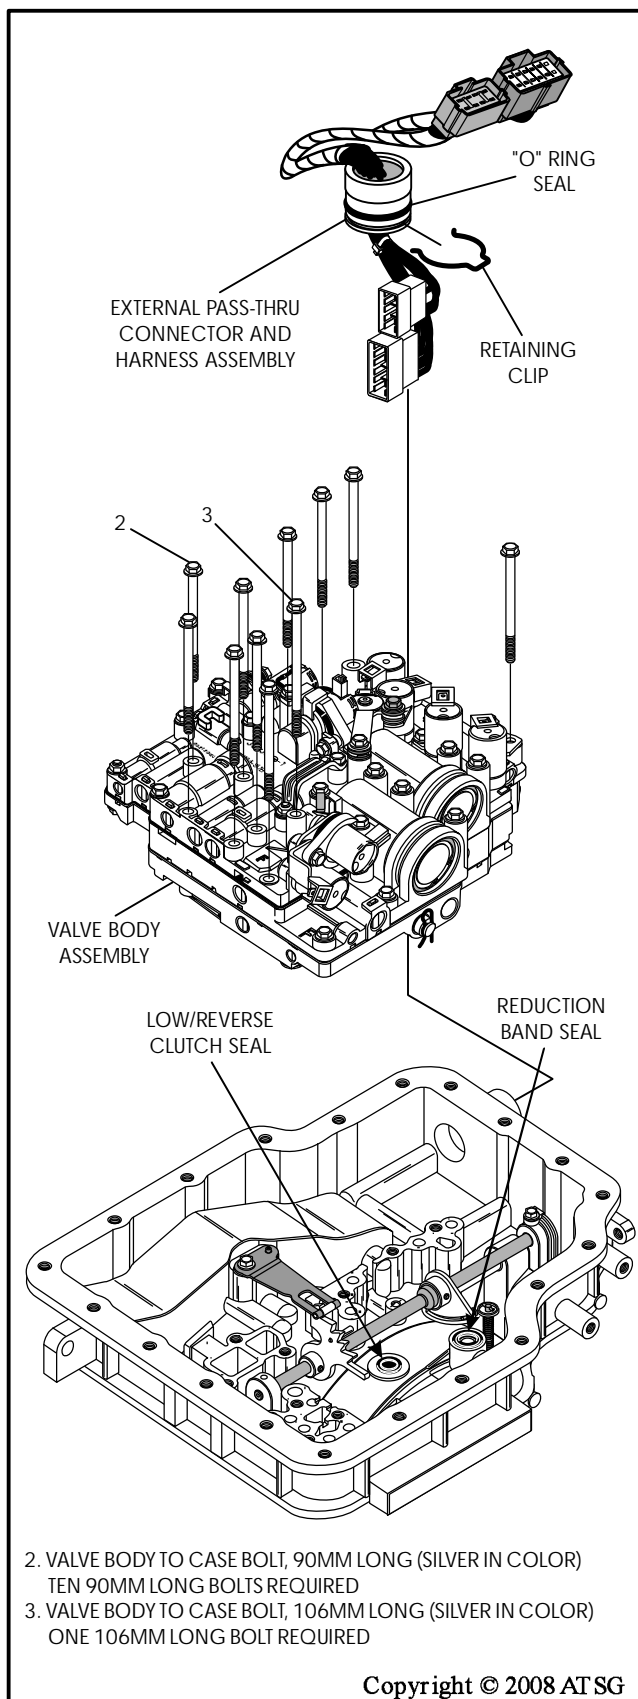

Figure 232
44. Install the pre-assembled valve body assembly, as shown in Figure 232, while holding manual valve with clevis pin against valve body.
46. Install the 11 silver colored valve body to case bolts, as shown in Figure 232.
48. Install the external pass-thru connector and harness assembly and install retaining clip, as shown in Figure 232.